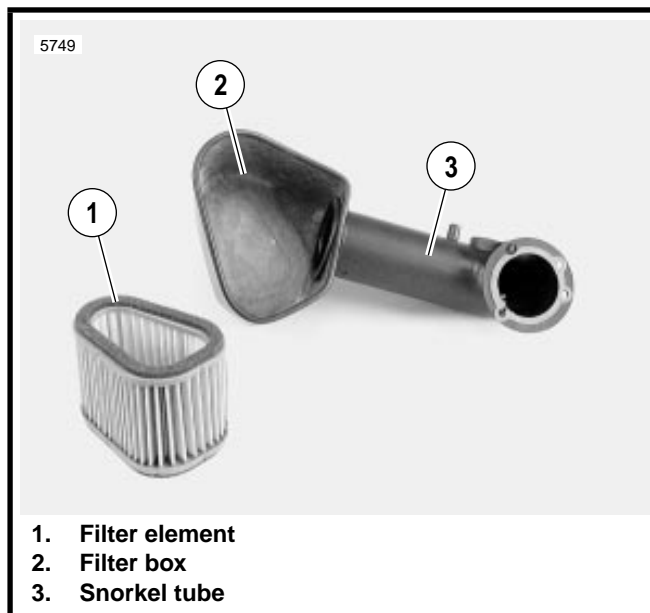

Figure 1-40. Snorkel Tube
3. See Figure 1-40. Remove filter box from snorkel tube.
4. See Figure 1-40. Place filter in filter box. Attach filter box to snorkel tube.